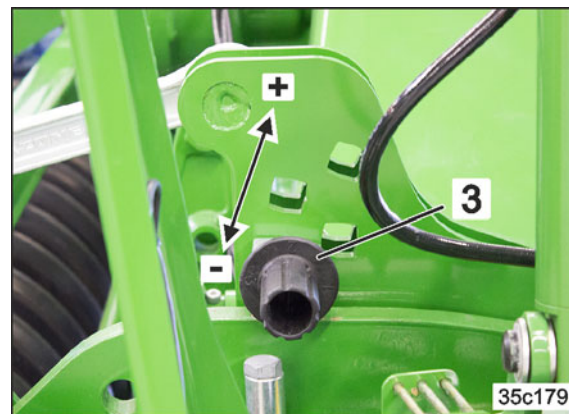

Fig. 104
3. Insert the depth setting pins in the same square hole in the two outer segments. A finer graduation of the working depth can be achieved by turning the depth setting pin in the same square hole. (Fig. 104/3)
- o the higher the position of the depth setting pin (Fig. 104/3+) in the adjuster segment